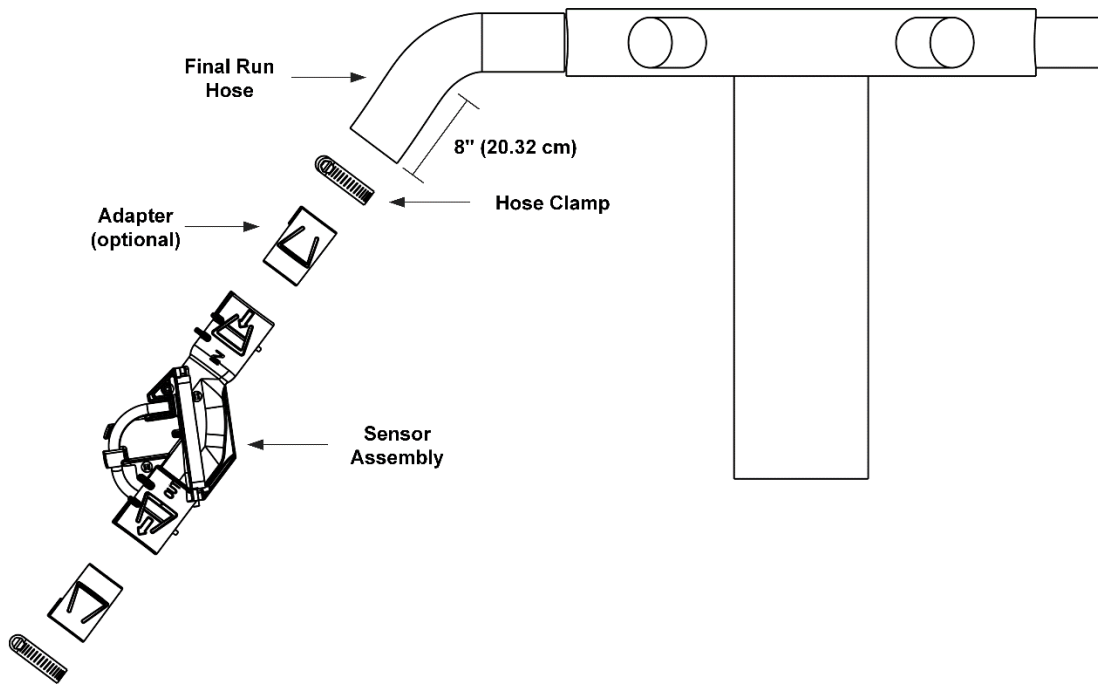

Figure 7: Installing 1-inch and 1.25-inch flow sensors on a manifold
1. If you are using adapters, snap them into the sensor as shown in Figure 7.